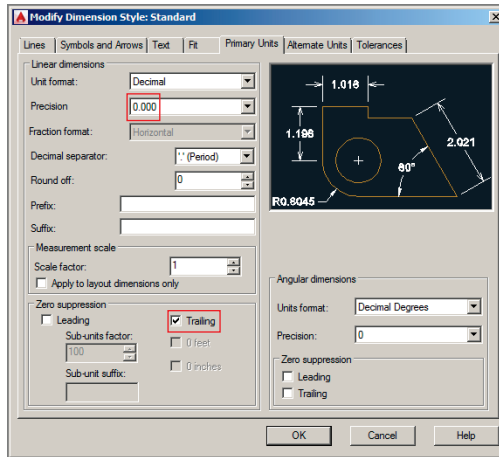

FIGURE 11.4 Configuring dimension style primary units
- Select the Primary Units tab in the Modify Dimension Style: Standard dialog box (Figure 11.4). Set Precision to 0.000 in the Linear Dimensions section. (If you are in a country that uses a comma instead of a period as a decimal separator, select "," (Comma) in the Decimal Separator drop-down menu.) Select Trailing in the Zero Suppression section (see Figure 11.4).